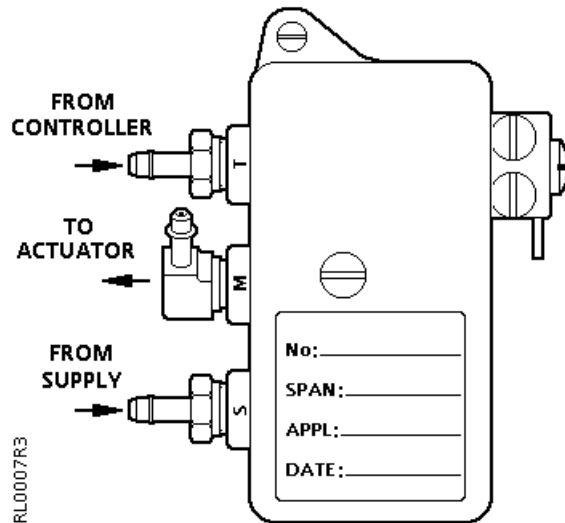

Figure 3. Positioning Relay Ports.
10. Make pneumatic piping connections to the actuator and relay. The "S" Port is the air supply port. The "M" Port goes to the connector on the actuator. The "T" Port is the signal from the controller. See *Figure 3*.
11. Place the calibration label on the cover as shown in *Figure 3*. Mark for reference. (Optional) Attach the relay cover if you are not calibrating immediately.